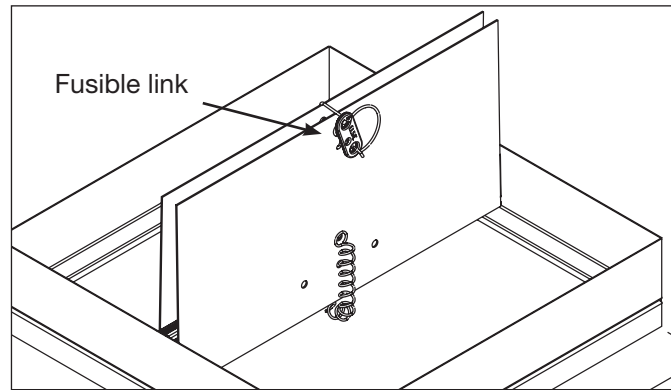

Figure 2
- 1) Check the drawings for proper damper locations within the building. Visually inspect the damper for damage. CRD-1WJ are shipped from the factory with blades in the closed position. The fusible link must be installed at the time of installation such that the blades are held open as shown in **Figure 2**.